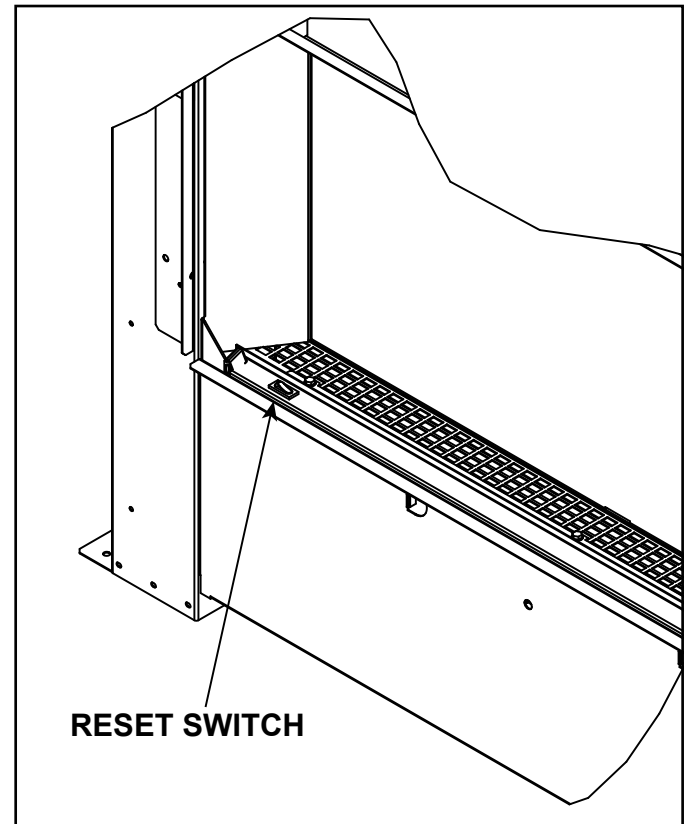

Figure 8.2 Reset Switch Location - Bottom Left
- Press the RESET switch located on the left side of the transition media tray. Use a small, flat object to access the switch. Once the reset switch has been pressed, ← move the reset switch back to its original position and attempt to start the appliance. See Figure 8.2.